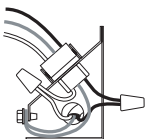

Figure 11
- Using proper wire connectors, wire the fan as shown in Figure 11.